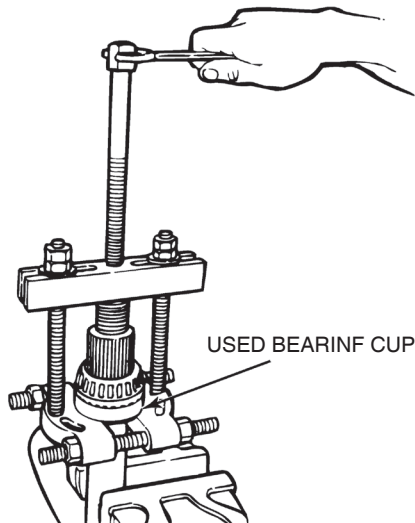

Figure 3.15
2. Install a bearing puller tool over the output shaft. Figure 3.15. The bearing cup supports the output shaft.